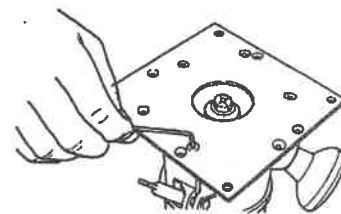

Fig. A-19
- j. Securely tighten all the screws with an appropriate screwdriver or Allen wrench, shown in Fig. A-19.